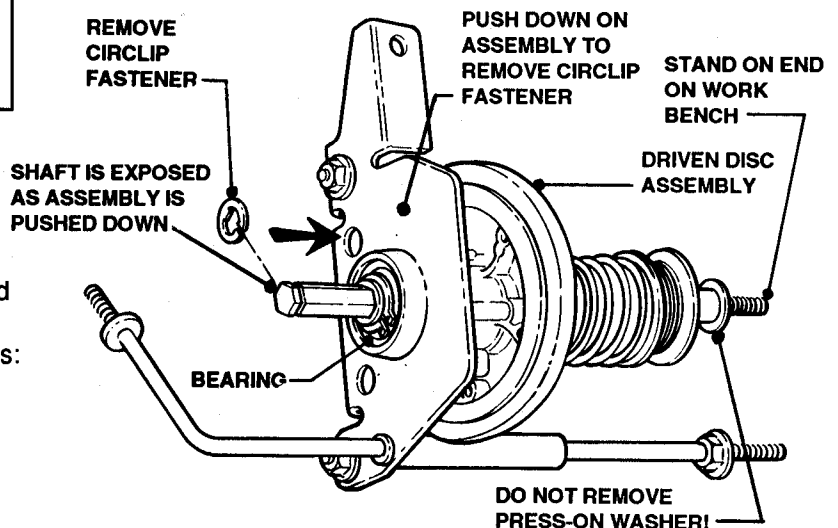

FIGURE 3.20
2. Stand Driven Disc Assembly on end of work bench and press down on yoke frame until circlip fastener can be removed. Release downward pressure slowly to prevent injury. See Figure 3.20.